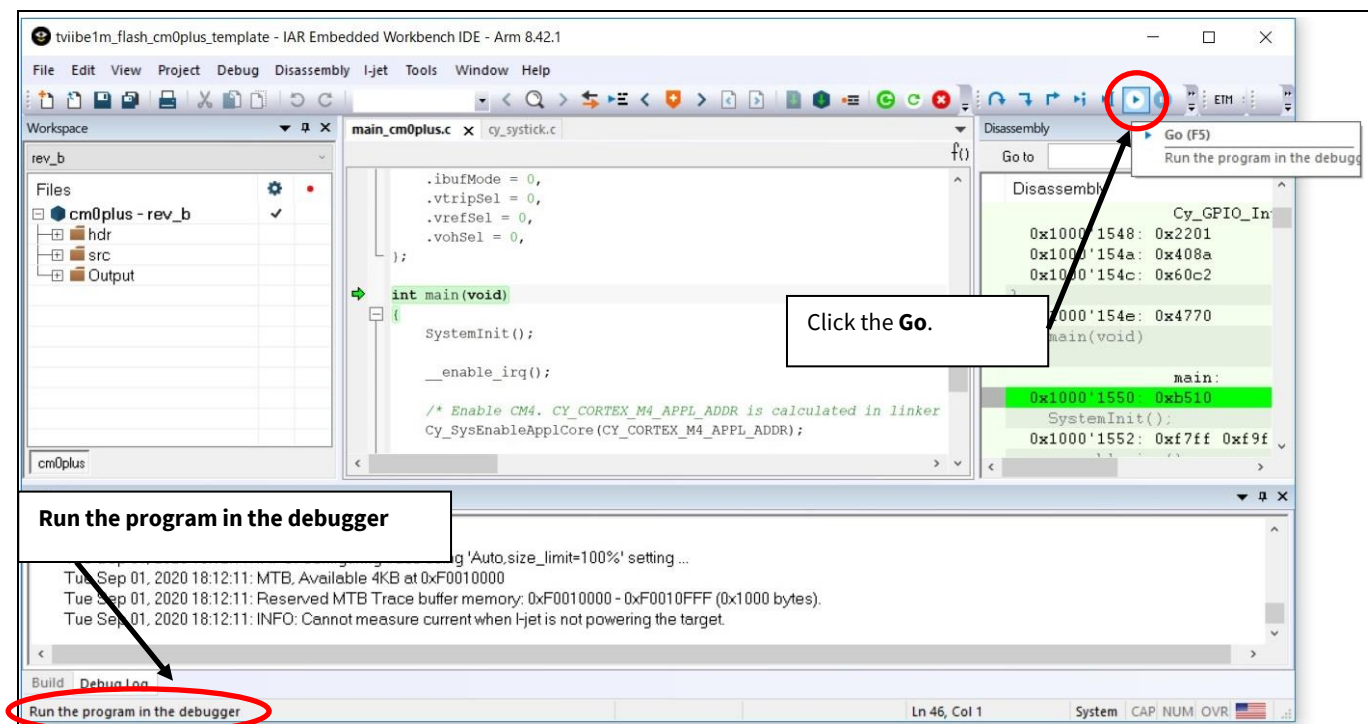

Figure 29 Execution on Flash memory
4. Click the **Go** icon as shown in **Figure 29**.
When these operations are performed, both CM0+ programs will be in the program running state and debugging will be possible as shown in **Figure 29**. The board LED starts blinking.